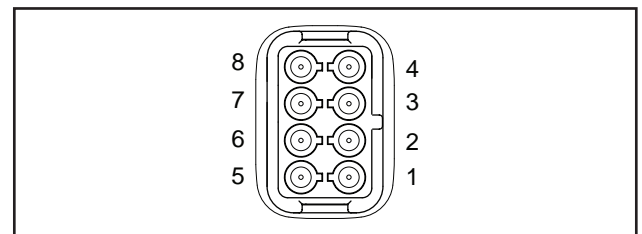

Figure 9. C2 Connector Pin Location Numbers (Female Side)
3. Disconnect C2 Connector from the side of the control panel. The C2 Connector is the closest to the back panel (see Figure 9, Section 6.1).